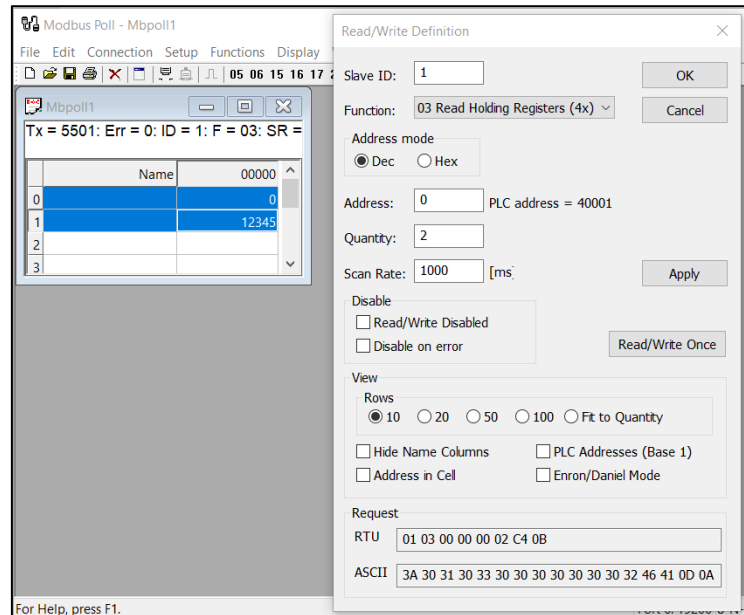

Figure 2: Reading out register pair for Serial Number by reading address 0 (Hex: 0x0000) with quantity 2.
- 2) Read out one of these register pairs using function code 3 (see Figure 2), and format into the adequate datatype in Big Endian Notation. Figure 3 shows how to do this for the serial number (formatted as UINT_32) in the software “Modbus Poll”.